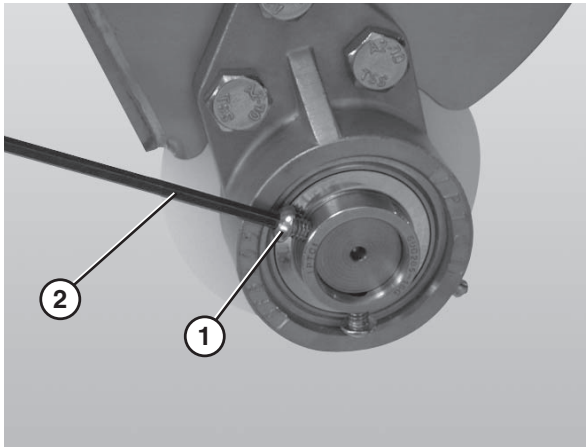

Figure 74
5. Tighten the 3 hole flange with bearing fasteners (**Figure 74, item 1**) using a hex wrench (**Figure 74, item 2**) to 54 in•lbs (6 N•m). Check after 24 hours of conveyor use.